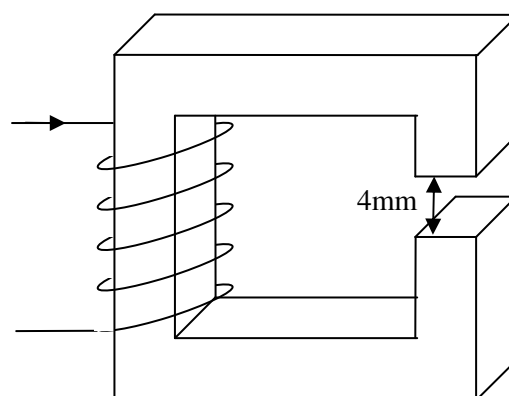

Figure 6.2
- b. In practice, such cores are usually designed to include an airgap in the magnetic circuit. If a 4mm long gap is cut through one of the sides as shown in figure 6.2, find:
- (i) how many turns would now be required to produce an inductance of 0.2H? (3)
- (ii) the new flux density in the core with this new number of turns for a coil current of 1 A (2)
- (iii) From your knowledge of the characteristics of typical core materials, explain why an airgap is normally included in the design of such devices. (2)
- (i) calculate the peak flux density in the core. (4)
- (ii) the power dissipated in the coil and the peak energy stored in the inductor. (2)
- d. The sinusoidal supply is now replaced by a 40V d.c. source and connected to the coil through a switch which is initially closed. The switch is then opened and the current falls from its initial steady-state value to zero within 1.5ms. Calculate the peak voltage which appears across the coil when the switch is opened. (2)